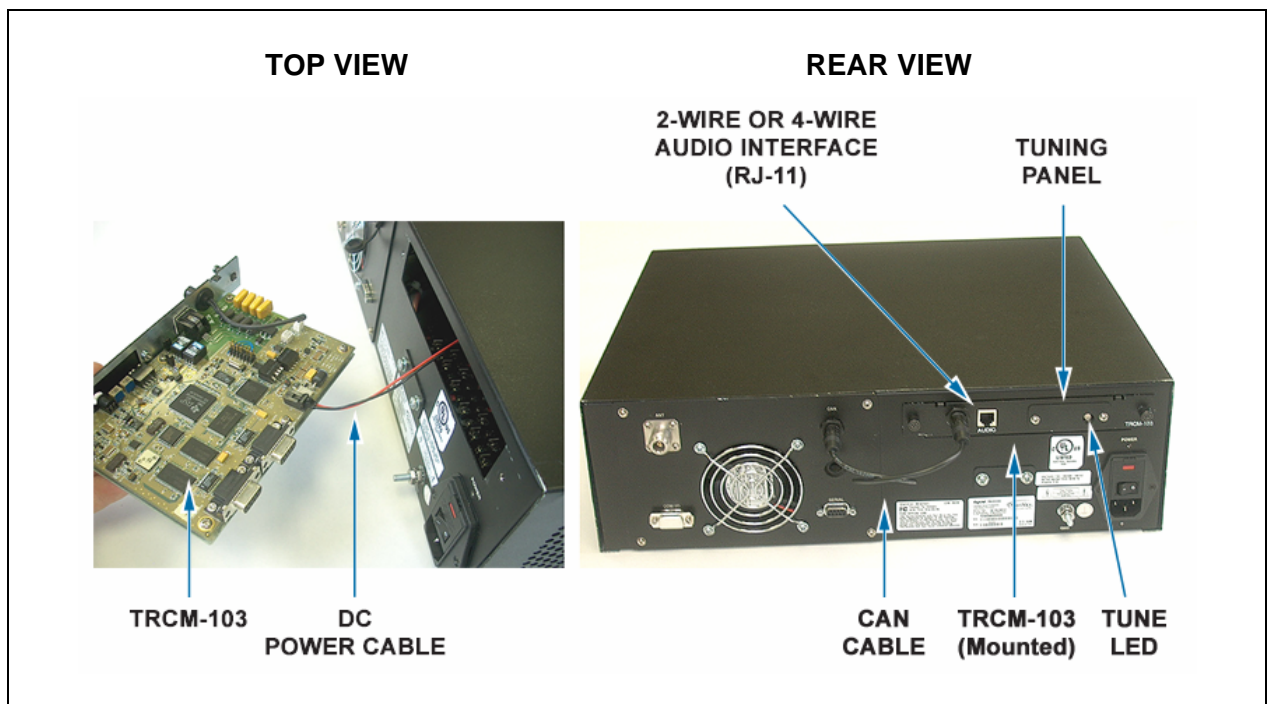

Figure 4-10: TRCM-103 Installation into CS-7200 and its External Interfaces
If the CS-7200 will be connected to and controlled by one or more Tone Remote Controllers (TRCs), the TRCM-103 Tone Remote Control Module must be installed into the CS-7200, and the CS-7200 and the TRCM-103 must be properly configured as described in this section. Figure 4-10 shows this installation and the TRCM-103's external interfaces.
4. Connect the DC power cable's connector to the power connector on the edge of the TRCM-103's printed circuit board. See Figure 4-10.